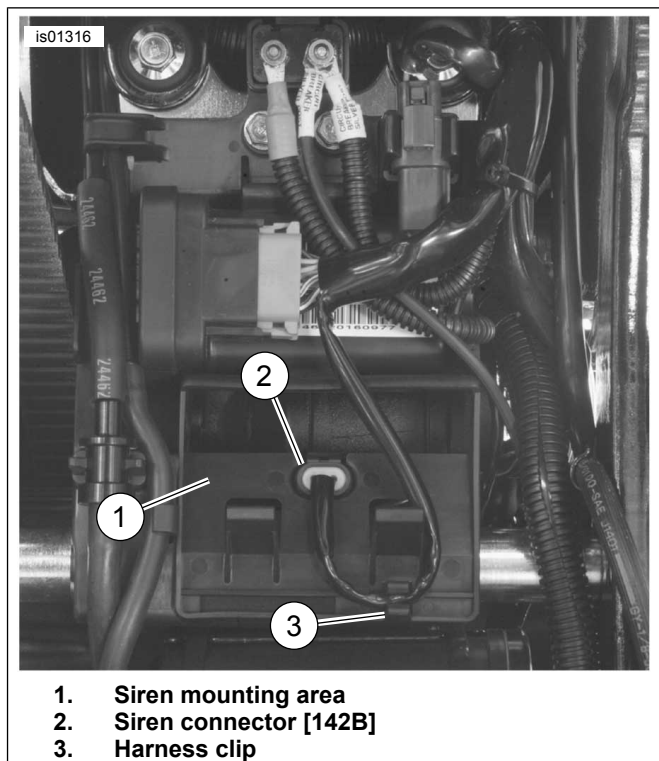

Figure 21. Siren Connector (Softail Models EXCEPT FXCW/C) (Rear Fender View with Rear Wheel Removed)
3. See Figure 21. Remove the siren connector [142B] (2) from the receptacle in the siren mounting area (1) of the electrical panel.